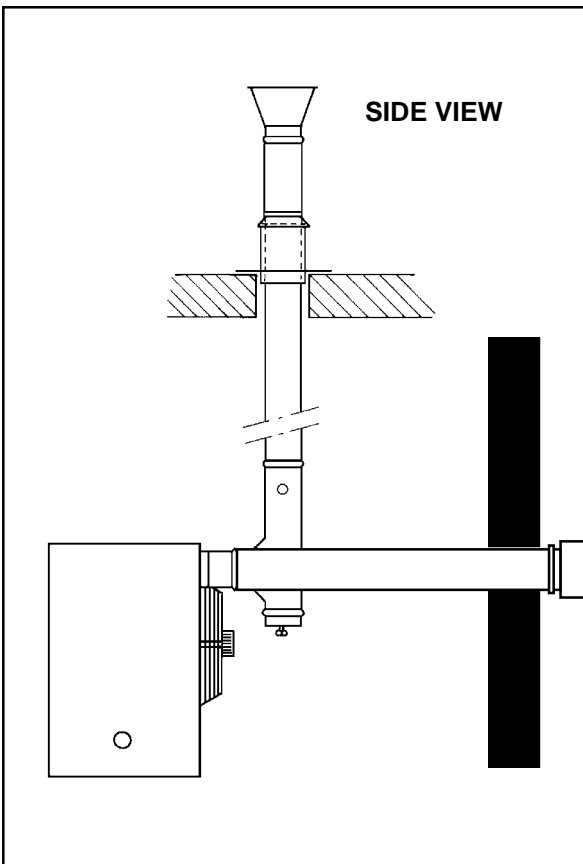

Figure 11
- **C₅₃** type installation: room sealed combustion circuit; appliance with inlet air supply and outlet of exhaust gases by using separated ducts and terminals n different walls, for example, the air inlet duct from the wall behind the appliance and the flue exhaust duct on the roof (see figure 11).